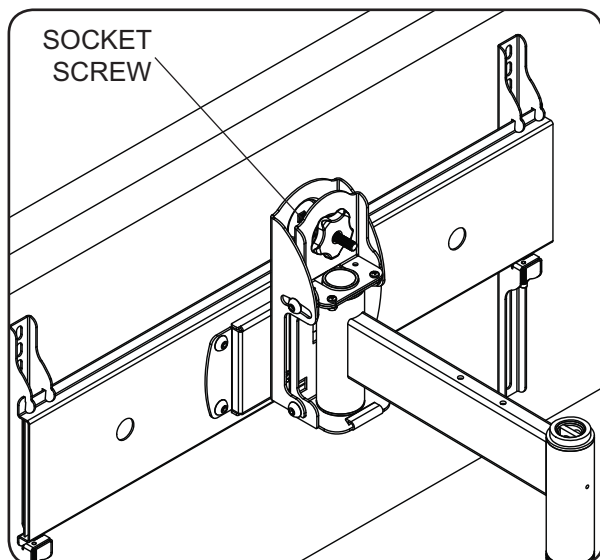

fig. 10.1
- To lower display, turn socket screw shown in figure 10.1 clockwise with 10mm allen wrench (V).
- To raise display, turn socket screw shown in figure 10.1 counterclockwise with 10mm allen wrench (V).